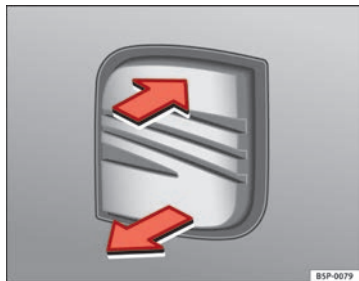

Fig. 75 Luggage compartment: opening from the outside
- Pull on the release lever ⇒ Fig. 75 and lift the rear lid at the same time.